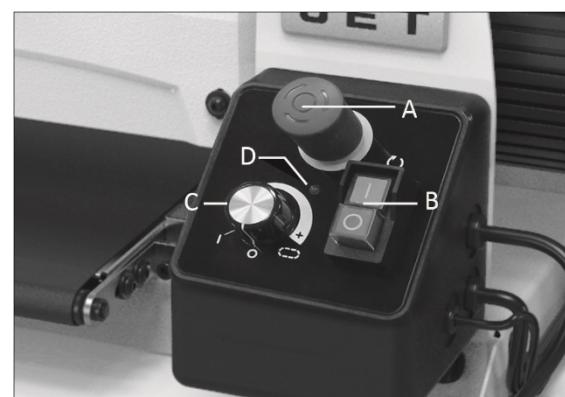

Figure 9-1: control panel
3. Start sanding drum (with control panel switch, Figure 9-1).
4. Start conveyor and select feed rate (with control panel dial, Figure 9-1).
2. Disengage emergency stop by clockwise turning the red button or pulling it up (A, Figure 9-1).